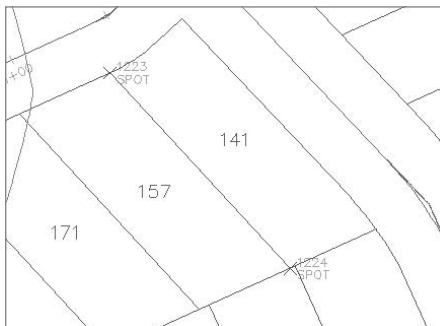

Figure A.20
10. At the **Select an arc, line, polyline, lot line or feature line** prompt, select the polyline between lots 141 and 157. Points will appear at the start point and endpoint of the lot line, as shown in Figure A.20.